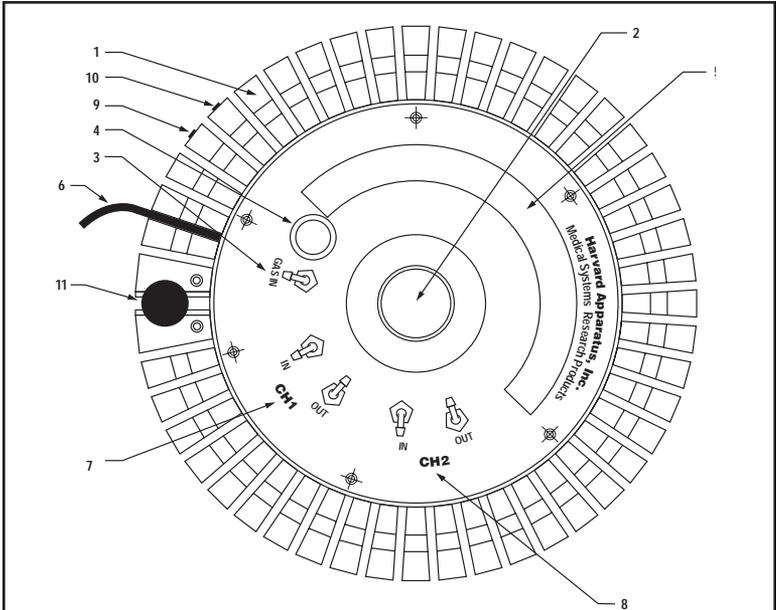

Figure 1. Top View of PDMI-2
Plastic Perfusant Tubes	Teflon™ tubing (see #7 & 8 in Figure 1 on page 6)
The Open Perfusion Micro-Incubator (PDMI-2) is an annular shaped assembly (see Figure 1, page 6) surrounding the central chamber (either a disposable plastic 35 mm Corning™ Petri dish or the reusable Cover Slip Dish 35 mm Ø).
1. The lower plate assembly (black aluminum plate) has a flat bottom surface to which the appropriate alignment ring is attached to form a mating surface with the microscope. This lower assembly serves also as a radiator of Peltier pumped heat via radial cooling fins (see Figure 1, page 6) on its outside diameter.
*Note on Orientation:* Any references to right and left assume the unit is viewed as in Figure 1 from above with the electrical cable to the left (see Figure 1, page 6).
- a. **Salt Bridge Ground:** The Ag/AgCl disc in a salt bridge well (see #3, Figure 1, page 6) is connected to a small 1 mm diameter white color socket (see #10, Figure 1, page 6). This allows grounding of the recording chamber via an integral agar/salt bridge.
- b. **Shield Ground:** A small 1 mm diameter green color socket (see #9, Figure 1, page 6) connected to the cable shield and aluminum components of the PDMI-2. Connecting this to a local ground can sometimes reduce 50/60 Hz interference.
Outlet from the chamber is by direct suction. The included aspirator (LU-ASP) was originally developed by Dr. Can Ince, University of Leiden, for patch clamp applications. The design of this aspirator cleverly avoids fluid level variations (a source of electrical noise) in electrical recording experiments. The aspirator has a magnetic base to grip a matching magnetic surface (see #5, Figure 1, page 6) on the top of the top plastic plate of the PDMI-2. Connect up a source of suction with a liquid trap to this aspirator. The level of fluid in the chamber is determined by the height of this aspirator and can be changed with its thumbscrew. The oscillations inherent in any peristaltic perfusion are easily damped with bubble-traps. Such traps also allow the independent chamber grounding required for low noise electrical recording.
The Ag/AgCl disc in the chamber ground can be pretreated for minimum DC offset and noise. Pre-fill the plastic well (see #3 in Figure 1, page 6) in the PDMI-2 with the desired salt solution and let it soak for 2 to 4 hours. A faster method is to immerse a silver wire in the filled well and apply an AC voltage between it and the white lead of the PDMI-2. A two minute application (60 Hz) is sufficient with no more than a few milliamps (preferably at 400 Hz or higher). With frequent use, the Ag/AgCl disc may occasionally require replacement. Return your PDMI-2 to Harvard Apparatus for Ag/AgCl disc replacement (see General Information, page 2).